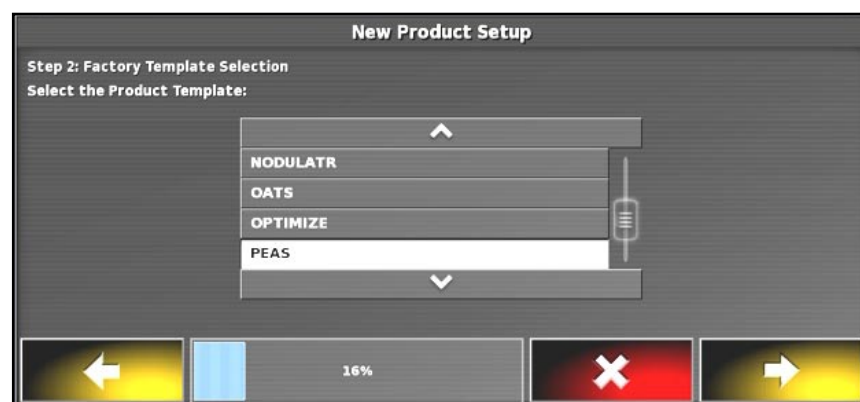

Figure 7.6 - Selecting Product Templates
3. Refer to *Figure 7.6*. Next screen will prompt you to select product template. Using arrows or scroll bar find the product you would like to add and select it. If you can not find your product, choose the one closest to it. Select yellow arrow to proceed to the next step.